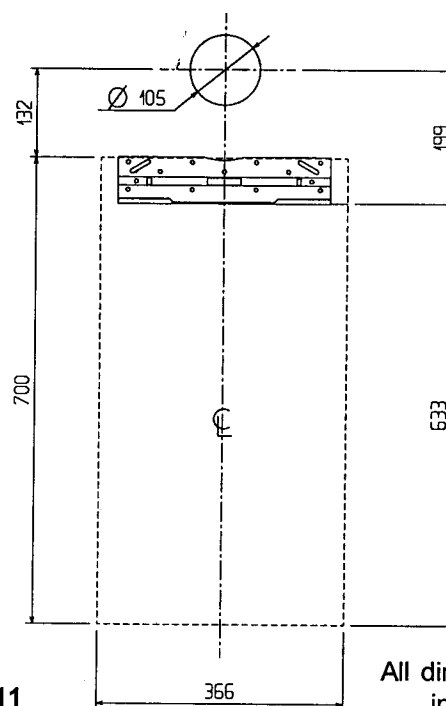
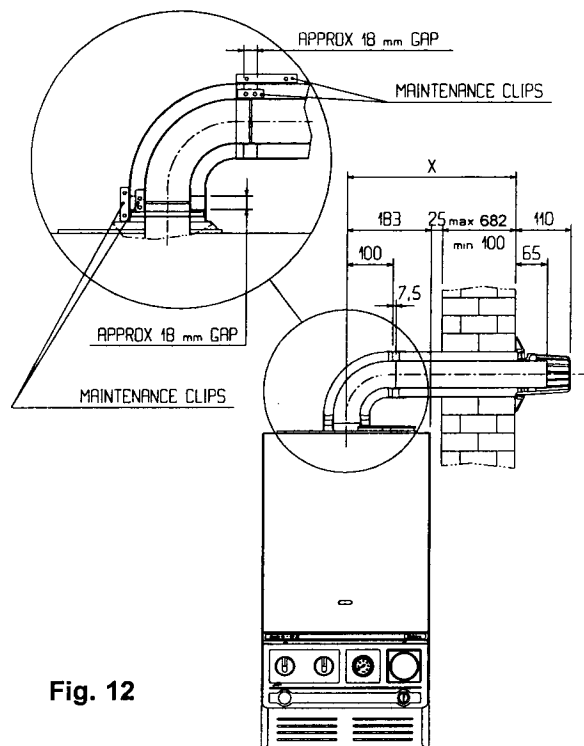
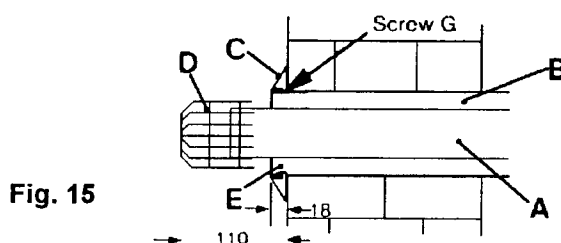
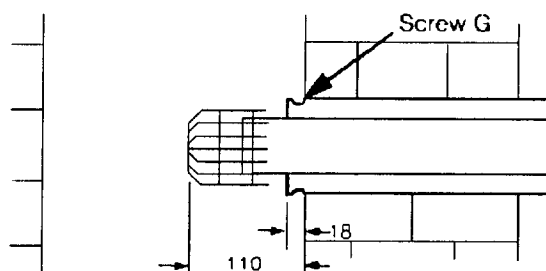

Fig. 11
Fig. 12
Fig. 15
Fig. 16
5.4 MOUNTING THE APPLIANCE (Ref. Fig.11)
Alternatively, position bracket and holes to dimensions in Fig. 11.
Refer to fig. 11 and figs. 12 - 16 for relevant dimensions for locating the hole. Where it is remote from the boiler take special care to ensure the hole is at the correct level so that the finished flue is horizontal.
5.5.1 Refer to figures 12 - 16
5.5.3 Hang the boiler on the bracket. Adjust the boiler sideways to its correct position. Locate the small maintenance clip on to the flue elbow (figs. 12 & 13) and assemble onto the flue outlet on the top of the boiler. Twist the flue bend to the outlet direction required, and tighten the maintenance clip to secure the flue bend in place. Carefully level across to check that the hole through the wall is 1° lower than the flue bend.
5.5.4 Measure carefully from the actual face of the outside wall to the centre of the flue bend. (Dimension X on Figs 12 & 14)
NOTE: The two tubes must be separated by removing screw G (fig. 15) before cutting. The outer air tube should also be shortened by the same amount to allow a gap for easy working (see inset on fig. 12).
- 5.5.9** Ensure inner and outer terminal tubes are firmly fitted together with screw G (Fig. 15). Push the terminal tubes through the wall until the face of the outer tube protrudes 18mm from the face of the wall (Fig. 15). The terminal grill (D) will then protrude 110mm from the wall face.
- 5.5.16** Check also that the outer end of the flue projects as indicated in Fig. 15 or Fig. 16 if installed in a S.E. duct.
- 5.5.17** Referring to Fig. 12 fit the large maintenance clips into position and secure the clip screws.
- 5.5.19** Seal the peripheral gap around the outer tube with cement or mastic and slip the cosmetic flexible plastic collar (Fig. 15) item C) into groove on the pipe.
- 5.5.21** Assemble the large and small maintenance clips as shown in Fig. 12.
- 5.5.29 Referring to Fig. 12 fit the large maintenance clip into position and tighten clip screws.
- 5.5.32 Subtract 97mm from the dimension and cut the outer tube to this length. NOTE: The two tubes must be separated by removing screw G Fig. 15 before cutting.
- 5.5.39 Referring to Fig. 12 fit the large maintenance clip into position and secure clip screws.